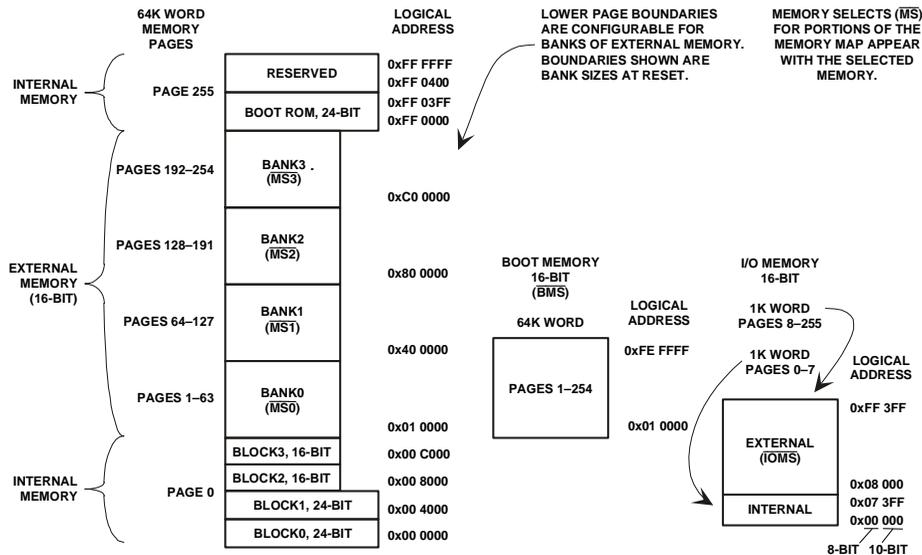

Figure 5-4. ADSP-2191 Memory Map
The ADSP-2191 memory map appears in Figure 5-4 and has multiple memory spaces: internal memory space, external memory space, system control register memory space, I/O memory space, and boot memory space. register to the buses appears in This section provides the following topics:
- **System control registers.** This space is separate from other memory spaces and does not appear in Figure 5-4. This space contains ungrouped registers; not part of a register group. For more information, see “System Control Registers” on page 5-15.